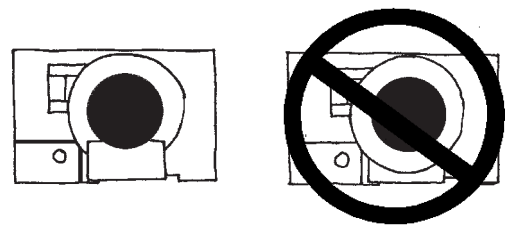

FIGURE 6.
8. Close drain valve by pushing in the large black knob and locking it into place and completely refill fryer. Refer to Figure 6.
**NOTE:** The drain valve handle controls fryer's Main Power Switch. **If drain valve is not fully closed and locked, fryer will not operate.** See Figure 6.